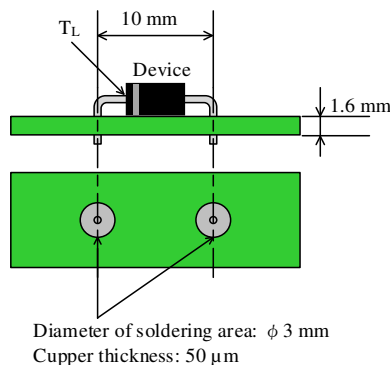

Figure 1. Lead Temperature Measurement Conditions
| Thermal Resistance (1)              | $R_{th(J-L)}$ | See Figure 1.   | —    | —    | 20   | $^\circ\text{C/W}$ |
(1)  $R_{th(J-L)}$  is thermal resistance between junction and lead. Lead temperature ( $T_L$ ) is measured near the root of pin (see Figure 1).
(2) See Figure 1 for the lead temperature measurement conditions.